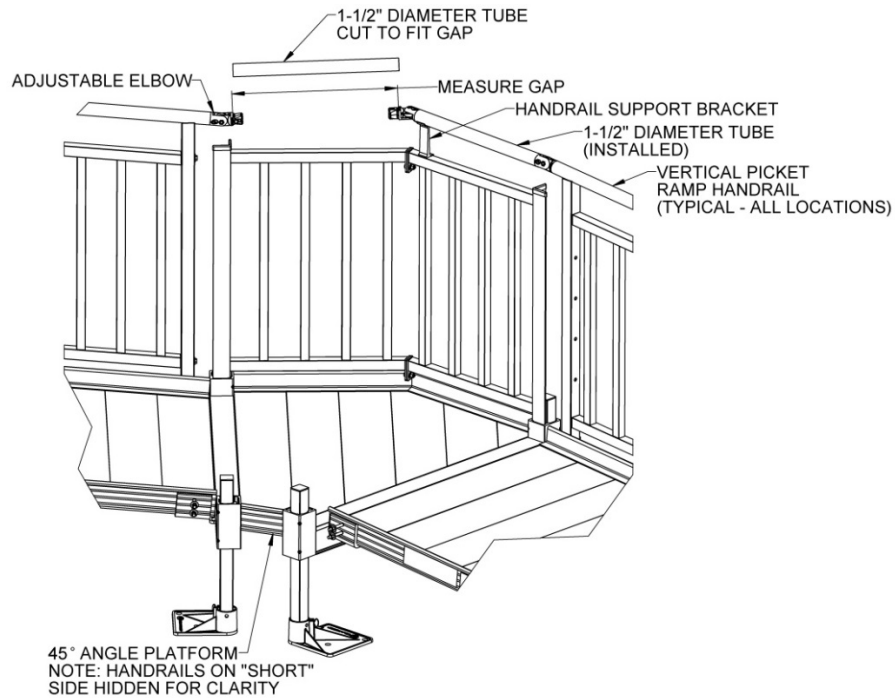

FIG. 4.25
- 4.9.21. Install an adjustable elbow in the last open ramp handrail and align with the adjustable elbow at the split between the Vertical Picket panels. Measure the gap between the large round faces, cut a 1-1/2" diameter handrail tube to fit the gap and install the handrail tube (FIG. 4.25). The procedure for installing the 1-1/2" diameter handrail tubes and adjustable elbows is the same as the installing the closure top rail.